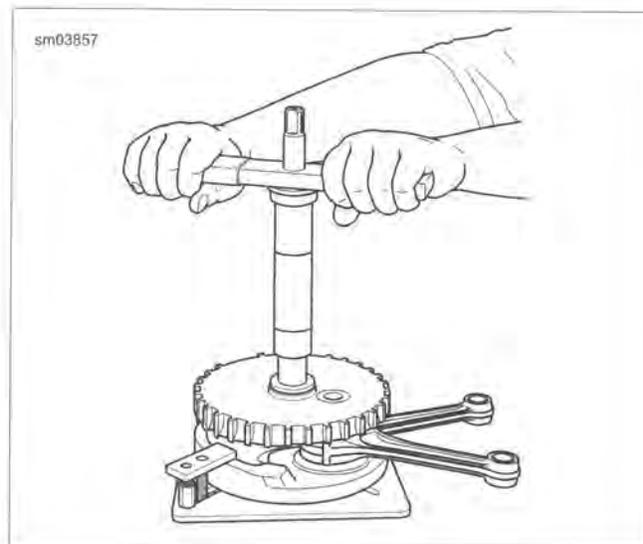

Figure 3-133. Press Inner Race onto Sprocket Shaft: Operation
5. See Figure 3-133. Rotate handle of tool clockwise until bearing inner race makes firm contact with thrust washer. Verify that thrust washer cannot be rotated by hand.